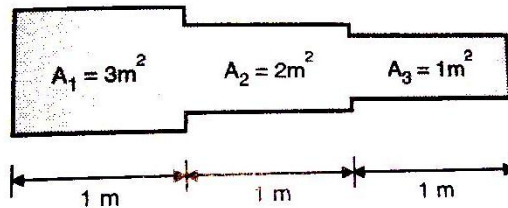

Figure 4
- (b) Determine the potentials at the junctions, velocities in each sections and volumetric flow rate for the pipe shown in Figure 4. Take permeability coefficient of 1 m/sec. The potential at the end is 10 m and at the right end is 1 m.